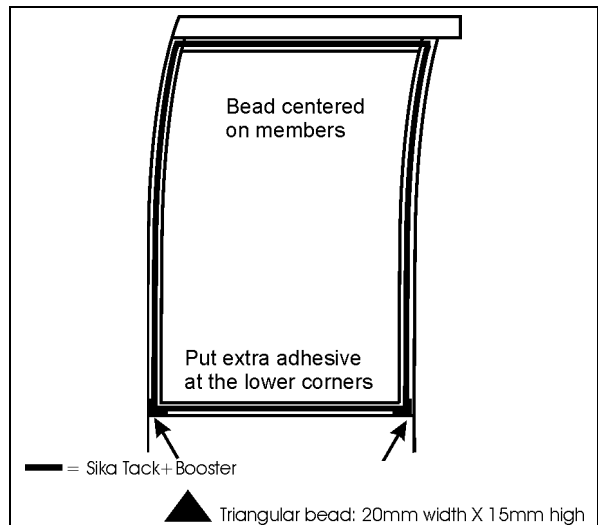
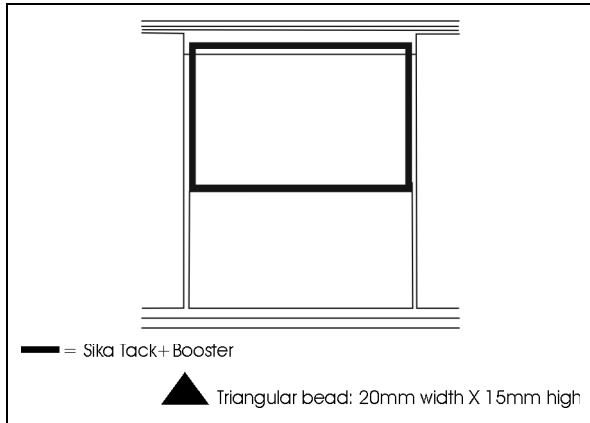

FIGURE 61 : SIDE WINDOW – SIKA TACK + BOOSTER
FIGURE 62 : HALF-WINDOW INSTALLATION – SIKA TACK+BOOSTER
10. Apply Sika Tack+Booster (triangular bead: 20mm width X 15mm high) as per FIGURE 61 (side window) or FIGURE 62 (half-window) [20mm≈13/16" ] [15mm≈19/32"];